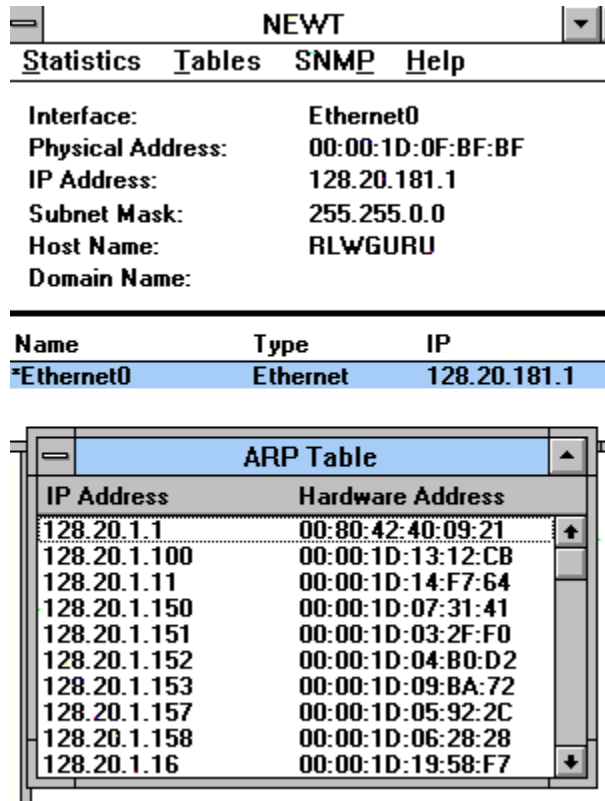

Figure 3-1. Netmanage NEWT Table and ARP Table Screens
1. Display the Netmanage NEWT table (**Figure 3-1**) by double clicking on the minimized NEWT icon, which is in the background when SPEL or RLVW 2.10 is opened.
For example: Refer to the ARP Table shown in **Figure 3-1** and assume that the IP address for the device is 128.20.1.100. The associated hardware address is 00:00:1D:13:12:CB.